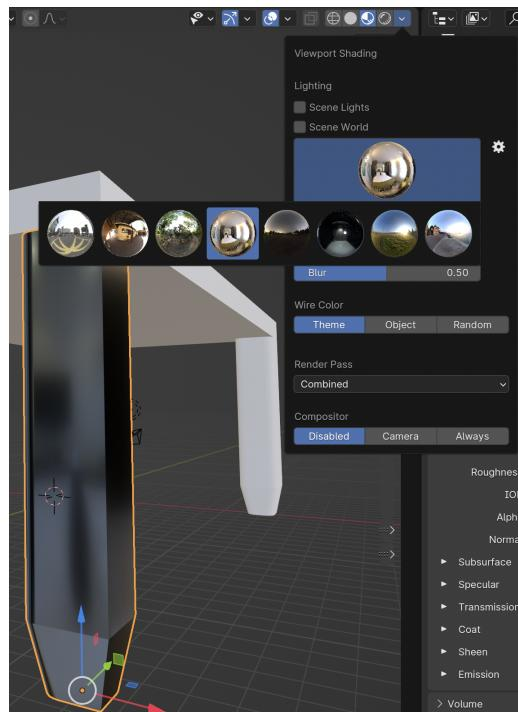

Figure 1.13: Viewport shading modes
19. To see the material mapped on the table leg, the viewport shading must be changed to *Material preview*. One can also change the HDR environment map used for the ambient lighting (see Fig. 1.13).